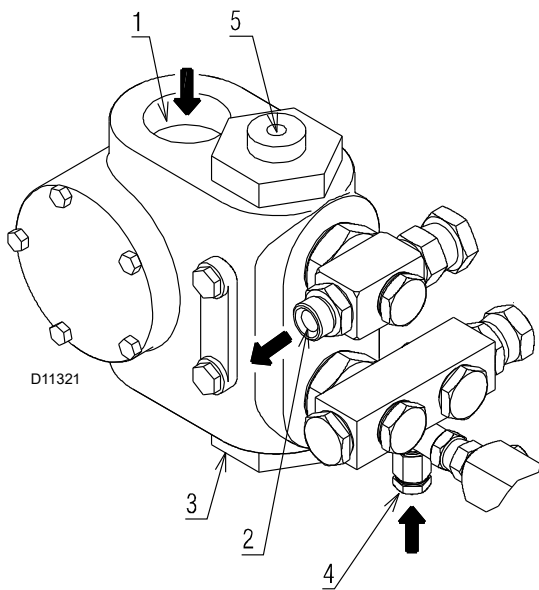

Fig. 23
Key (Fig. 23)
- In order for the pump (Fig. 23) to be able to self-prime, the screw 4) must be loosened to purge the air in the suction line.
If the pump has been drained, fill it with fuel through the opening on the vacuum gauge 4)(Fig. 23) prior to starting; otherwise, the pump will seize.